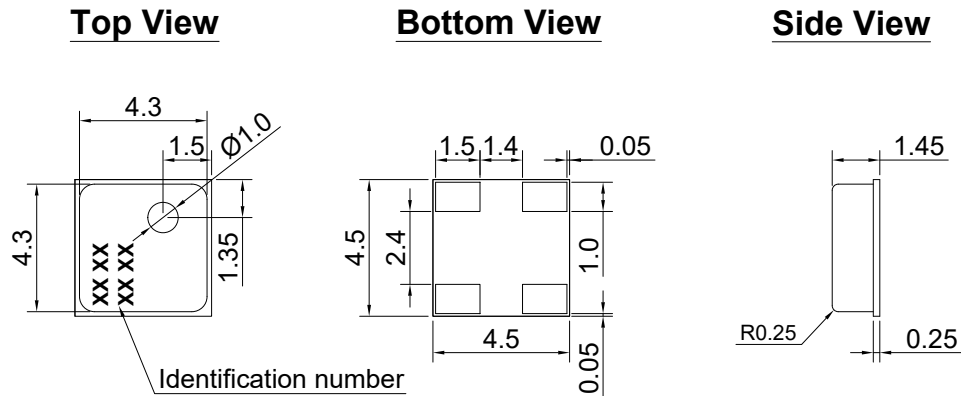

Figure 8. Mechanical Layout of SMO01A-42
- 6.3.1.** Layout and Dimension : See Section 9, Figure 8